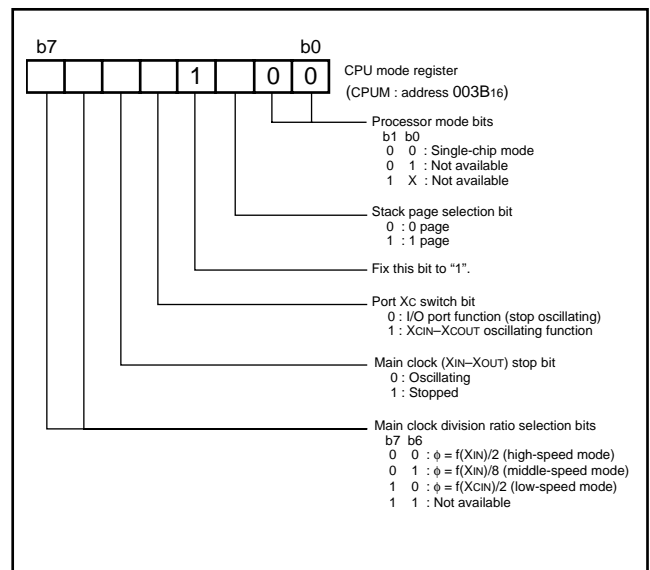

Fig. 103 CPU mode register bit configuration in CPU rewriting mode
Figure 103 shows the CPU mode register bit configuration in the CPU reprogramming mode.
- ① Apply 0 V to the CNVss/VPP pin for reset release.
- ② Set the CPU mode register (see Figure 103).
- ③ After CPU reprogramming mode control program is transferred to internal RAM, jump to this control program on RAM. (The following operations are controlled by this control program).
- ④ Set "1" to the CPU reprogramming mode select bit.
- ⑤ Apply VPPH to the CNVss/VPP pin.
- ⑥ Wait till CNVss/VPP pin becomes 12V.
- ⑦ Read the CPU reprogramming mode monitor flag to confirm whether the CPU reprogramming mode is valid.
- ⑧ The operation of the flash memory is executed by software-command-writing to the flash command register .